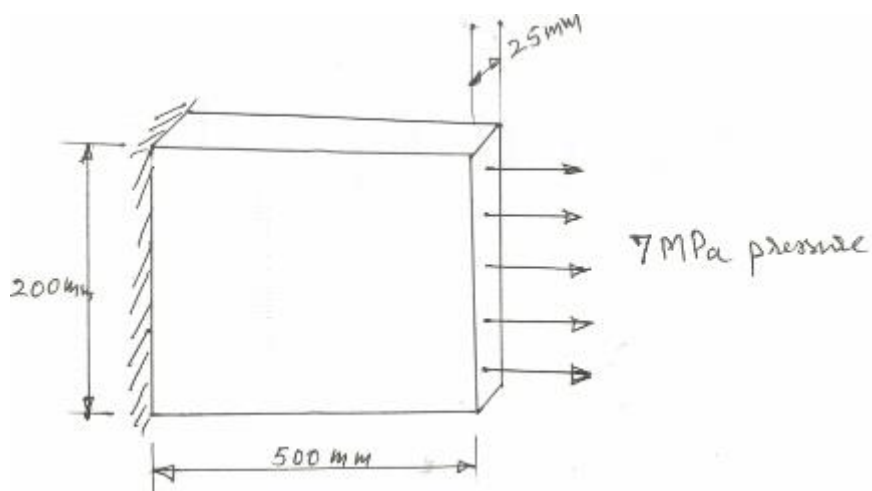

Figure 5
- 5A. For the structure shown in Figure 5, develop the global stiffness matrix. Given $E=200GPa$ and poison's ratio Of 0.3. Assume plane stress conditions. (10)